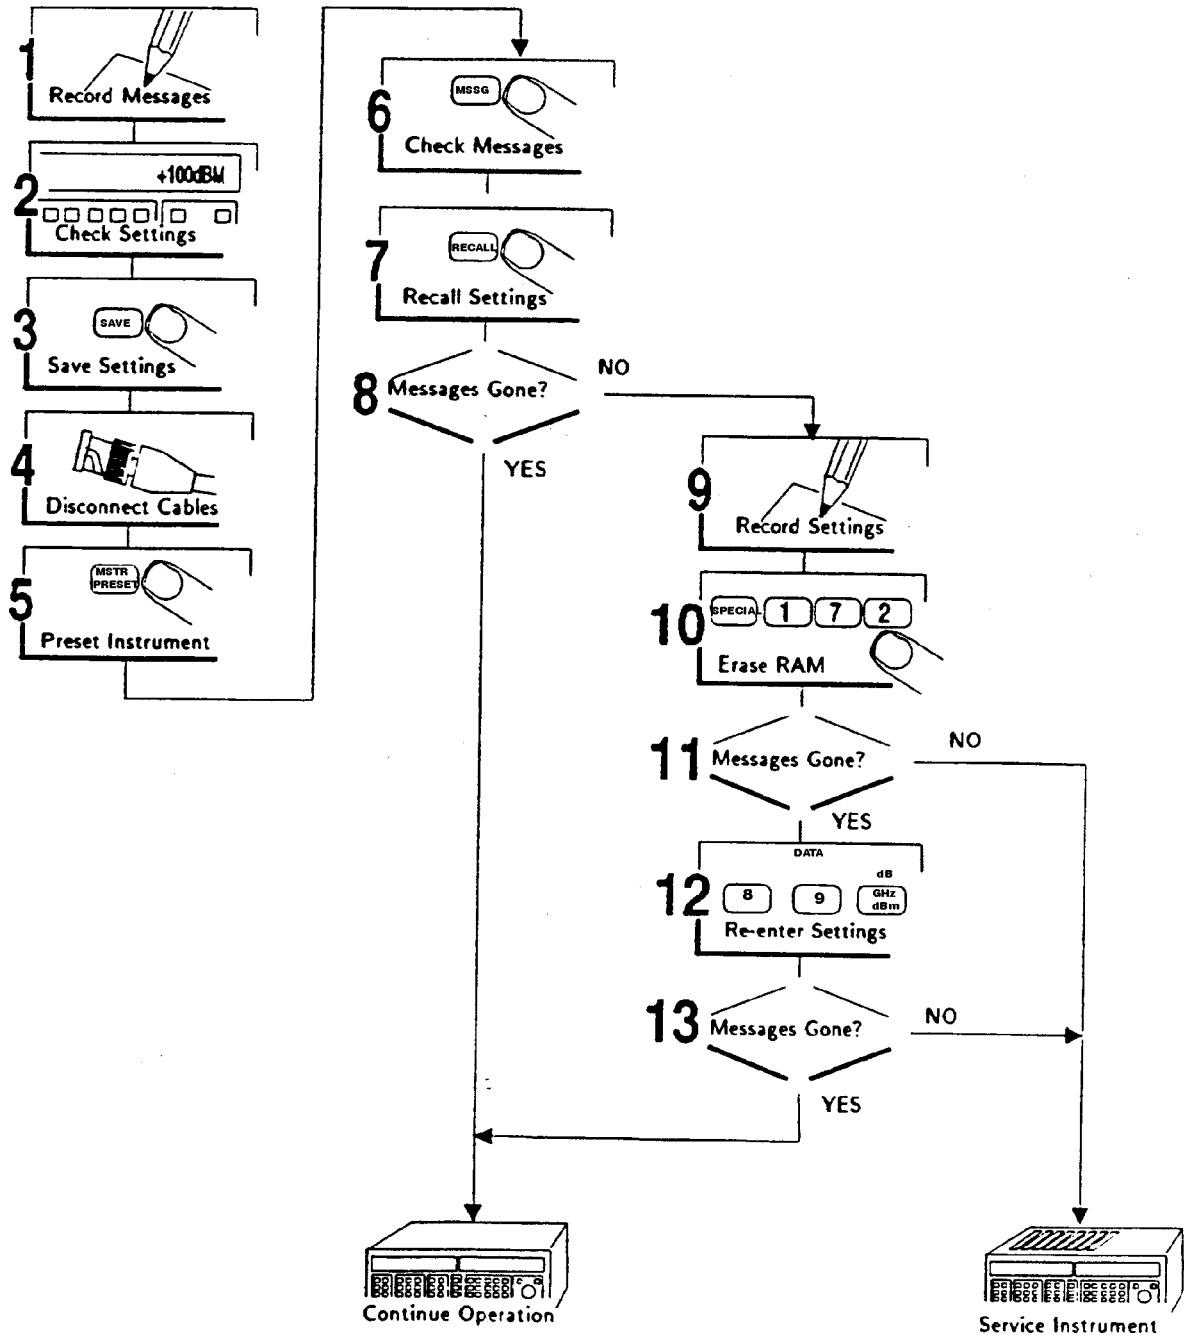

Figure 1. Corrective Action for Error Messages
Hardware Failure 1	A communications discriminator failure has been detected at power up, or detected as a result of a self-calibration or self-test. Refer to Figure 1 for corrective action.
Hardware Failure 2	A VCO failure has been detected at power up, or detected as a result of a self-calibration or self-test. Refer to Figure 1 for corrective action.
Hardware Failure 3	A Fractional-N failure has been detected at power up, or detected as a result of a self-calibration or self-test. Refer to Figure 1 for corrective action.
Hardware Failure 4	A modulation distribution failure has been detected at power up, or detected as a result of a self-calibration or self-test. Refer to Figure 1 for corrective action.
Hardware Failure 5	An ALC failure has been detected at power up, or detected as a result of a self-calibration or self-test. Refer to Figure 1 for corrective action.
Hardware Failure 6	An attenuator failure has been detected at power up, or detected as a result of a self-calibration or self-test. Refer to Figure 1 for corrective action.
Hardware Failure 7	An audio source failure has been detected at power up, or detected as a result of a self-calibration or self-test. Refer to Figure 1 for corrective action.
Hardware Failure 8	A reference failure has been detected at power up, or detected as a result of a self-calibration or self-test. Refer to Figure 1 for corrective action.
Hardware Failure 9	A doubler failure has been detected at power up, or detected as a result of a self-calibration or self-test. Refer to Figure 1 for corrective action.
Hardware Failure 13	A front panel failure has been detected at power up, or detected as a result of a self-calibration or self-test. Refer to Figure 1 for corrective action.
Hardware Failure 14	A power supply failure has been detected at power up, or detected as a result of a self-calibration or self-test. Refer to Figure 1 for corrective action.
Hardware Failure 15	An I/O board failure has been detected at power up, or detected as a result of a self-calibration or self-test. Refer to Figure 1 for corrective action.
Hardware Failure 16	A controller failure has been detected at power up, or detected as a result of a self-calibration or self-test. Refer to Figure 1 for corrective action.
Hardware Failure 18	A frequency counter failure has been detected at power up, or detected as a result of a self-calibration or self-test. Refer to Figure 1 for corrective action.
Hardware Failure 21	A communications discriminator out-of-lock (OOL) condition exists. Refer to Figure 1 for corrective action.
Hardware Failure 23	A Fractional-N (NF) phase-locked-loop (PLL) out-of- lock (OOL) condition exists. Refer to Figure 1 for corrective action.
Hardware Failure 24	A VCO frequency-locked-loop (FLL) out-of-lock (OOL) condition exists. Refer to Figure 1 for corrective action.
Hardware Failure 25	A VCO phase-locked-loop (PLL) out-of-lock (OOL) condition exists. Refer to Figure 1 for corrective action.
Hardware Failure 26	A fast controller failure has been detected at power up, or detected as a result of a self-calibration or self-test. Refer to Figure 1 for corrective action.
Hardware Failure 27	An audio source out-of-lock (OOL) condition exists. Refer to Figure 1 for corrective action.
Hardware Failure 28	A reference out-of-lock (OOL) condition exists. Refer to Figure 1 for corrective action.
Hardware Failure 31	A ROM failure has been detected at power up, or detected as a result of a self-calibration or self-test. Refer to Figure 1 for corrective action.
Hardware Failure 32	A ROM failure has been detected at power up, or detected as a result of a self-calibration or self-test. Refer to Figure 1 for corrective action.
Hardware Failure 33	A ROM failure has been detected at power up, or detected as a result of a self-calibration or self-test. Refer to Figure 1 for corrective action.
Hardware Failure 34	A ROM failure has been detected at power up, or detected as a result of a self-calibration or self-test. Refer to Figure 1 for corrective action.
Hardware Failure 35	A voltmeter failure has been detected at power up, or detected as a result of a self-calibration or self-test. Refer to Figure 1 for corrective action.
Hardware Failure 36	A RAM failure has been detected at power up, or detected as a result of a self-calibration or self-test. Refer to Figure 1 for corrective action.
Calibration Error 1	A condition occurred where invalid level calibration data resides in either the Output or the Attenuator modules. Follow the external calibration procedures outlined in Figure 1.
Calibration Error 2	At sometime during the calibration or self-test, a condition occurred where some hardware was unable to be calibrated. Fix the hardware and re-calibrate. Refer to Figure 1 for corrective action. This error message will always be accompanied by other error messages.
User Memory Cleared	A memory failure has been detected, all battery backup memory is lost. Refer to Figure 1 for corrective action.